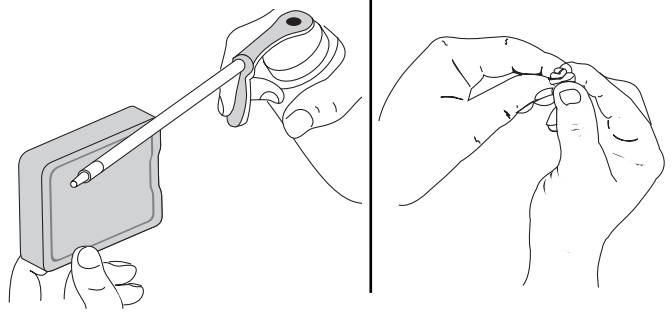

Fig. 21
4. Apply enough clean SAE 30 motor oil to lightly coat the filter (Fig. 21).
5. Squeeze the filter to spread and remove excess oil (Fig. 21).